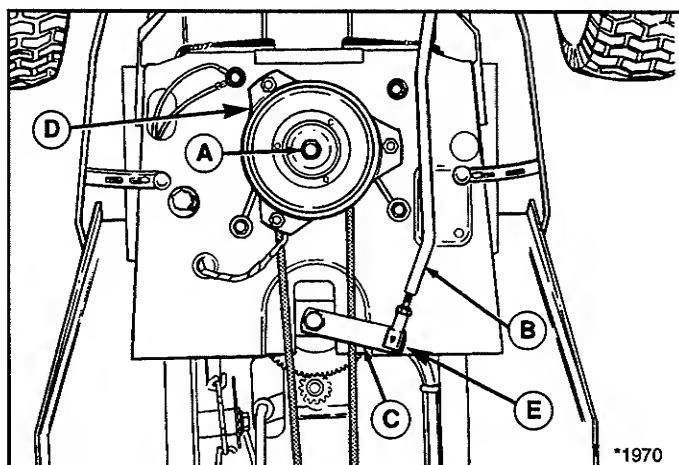

Figure 35. Drive Belt PTO Pulley
4. See figure 35. To remove belt from engine pulley, the PTO (electric clutch) must be removed and the belt slid over the top of the pulley. Disconnect the PTO wire. Remove the capscrew (A) along with the hex washer and lockwasher securing the PTO to the engine crankshaft. Slide belt over the top of the engine pulley.
6. See figure 35. On left-hand side of tractor, remove nut from capscrew (E) securing drag link (B) to steering arm (C). Drop old belt below drag link. Route new belt above drag link before re-installing nut on drag link, then tighten nut.